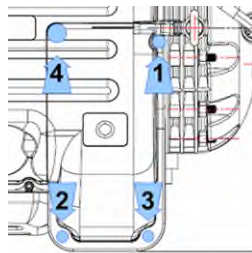

Figure 11 – Mains Input Cover Install
12. Place the New Mains Input Cover and secure it with the fasteners. Tighten according to the following sequence. Refer to Figure 11 (Mains Input Cover Install).